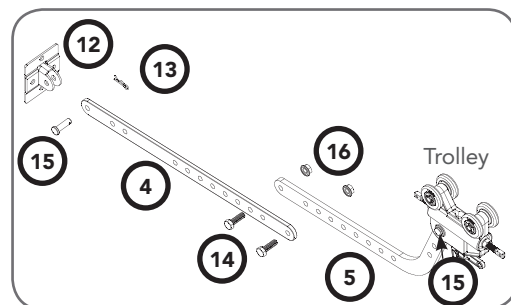

Fig 5.5
- Assemble the bent (5) and straight arm (4) with two (2) M8 x 25 Hex Head Screw (14) and two (2) M8 Hex Serration Flange Nut (16) (Fig. 5.5).
- Connect the assembled arm to the door bracket (12) and the trolley by a clevis pin (15) and a pin snap (13).